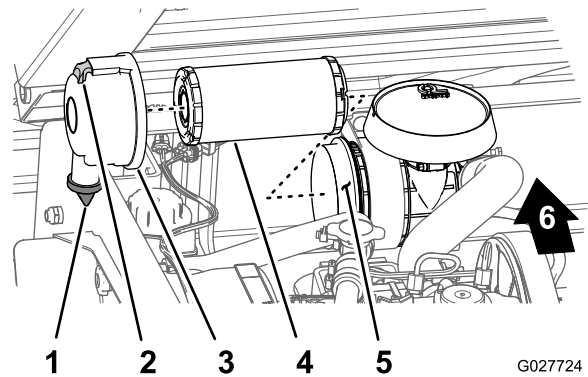

Figure 33
2. Check the air cleaner body for damage which could possibly cause an air leak. Ensure the air-filter cover is sealing around the air cleaner housing (Figure 33).
3. Pull the latch outward and rotate the air cleaner cover counterclockwise (Figure 33).
5. Gently slide the air-filter element out of the air-filter housing (Figure 33) to reduce the amount of dust dislodged.
1. Clean the dirt ejection port located on the air-filter cover(Figure 33).
2. Remove the rubber outlet valve from the cover, clean the cavity, and replace the outlet valve (Figure 33).
3. Insert the air-filter element into air-filter housing by applying pressure to the outer rim of the element to seat it into the air-filter housing (Figure 33).
4. Align the air-cleaner cover with the air-cleaner housing with the the rubber outlet valve in a downward position—between approximately 5:00 to 7:00 O'clock when viewed from the end (Figure 33).
5. Secure the cover to the housing with the latches (Figure 33).